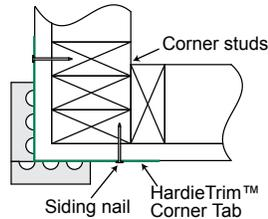

Figure 5
- For wood frame construction, attach trim to building using min. 6d siding nails fastened through the HardieTrim Corner Tabs attached to minimum 7/16" OSB \*. (Figure 5)